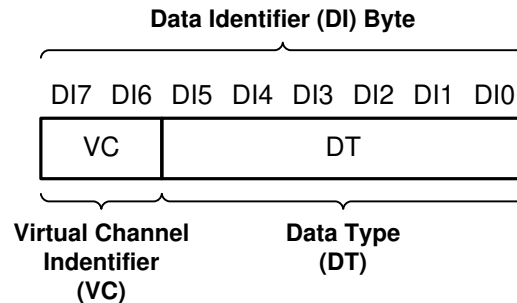

Figure 7-11. CSI-2 Data Identifier Structure
The TDES954 MIPI CSI-2 protocol interface transmits the data identifier byte containing the values for the virtual channel ID (VC) and data type (DT) for the application specific payload data, as shown in Figure 7-11. The virtual channel ID is contained in the 2 MSBs of the data identifier byte and identify the data as directed to one of four virtual channels. The value of the data type is contained in the six LSBs of the data identifier byte. When partnered with a TSER953 serializer, the Data Type is passed through from the received CSI-2 packets. When partnered with a DVP Mode serializer, the received RAW mode data is converted to CSI-2 Tx packets with assigned data type and virtual channel ID and matches what is sent by the video source.